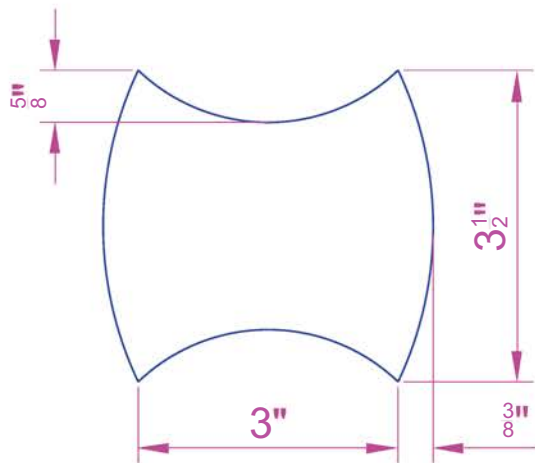

Fig. 11.43 Exercise 6 – outline to be extruded
6. In **Right** view, construct the lines and arc Fig. 11.43 on a layer colour **green**. Extrude the lines and arc to a height of **180**, place in the **SW Isometric** view, then call **Visual Styles/Shades of Gray** shading (Fig. 11.44).